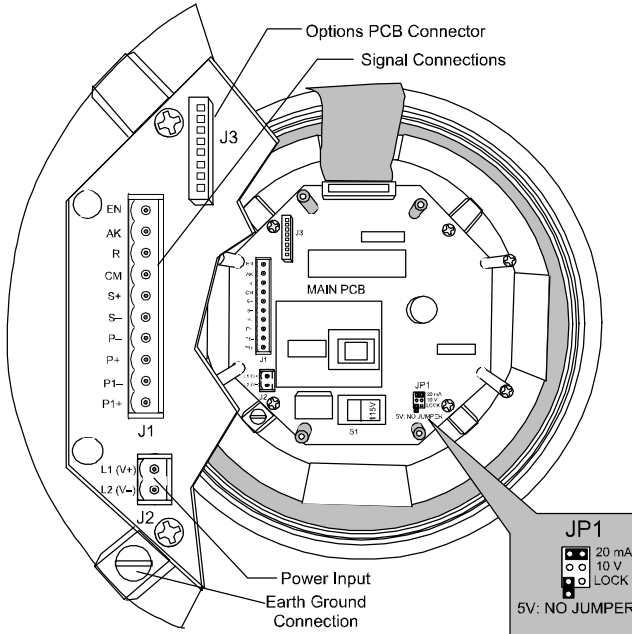
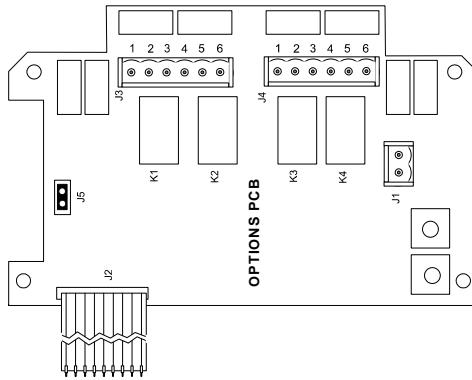
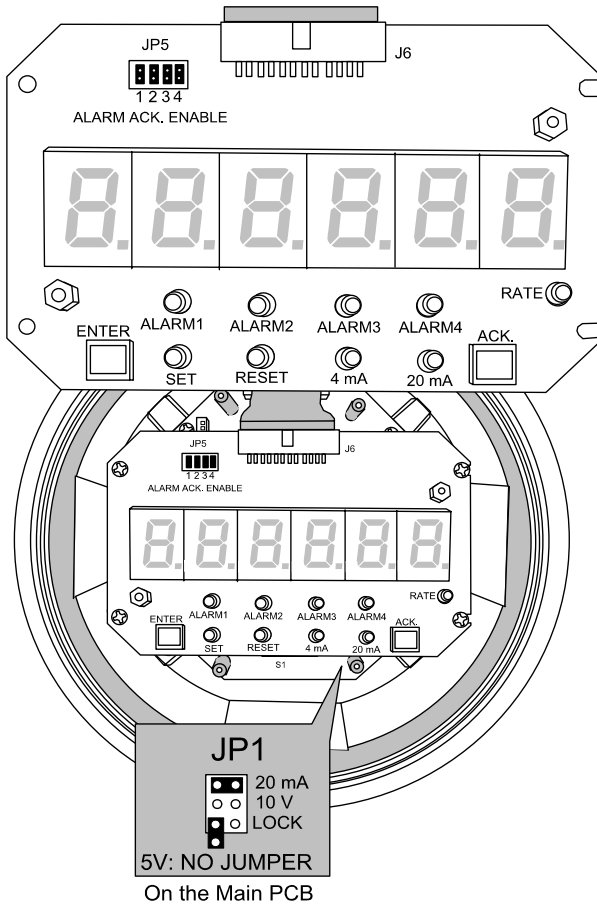

Figure 3. Connections and Jumper Diagram
Figure 4. Options Board Connectors and J5 Jumper Wiring Instructions
Figure 15. Jumper Arrays and Status LED Identification
2. Loosen the two mounting screws on the right side of the Display Board (see Figure 3 on page 21). It is not necessary to remove the faceplate.
1. Slide the Display Board under the two screws on the right side of the Display Board (see Figure 3 on page 21).
Once the Display Board has been removed, switch S1 is visible. It is the large black component with a red slide switch on the top, located next to the transformer. For location see Figure 3, page 21.
Refer to Figure 3 and Figure 4 for connectors' location.
Connect power to terminals L2(V-) and L1(V+). Connect Earth Ground to screw terminal marked with Ground symbol on the enclosure's base (see Figure 3).
Depending on the model number, the Options Board may contain 2 or 4 relays and an isolated 4-20 mA output transmitter. Relay connections are made to removable screw terminal connectors located at J3 and J4 on the Option Board. Connections for the isolated 4-20 mA output option are made to J1 on the Options Board. Refer to Figure 4, page 22 for connectors' location.
The **ENTER** button is used to program the meter for various functions and is located behind the front panel on the Display Board, It is labeled SW2 in Figure 15 above. The **ENTER** button can also be accessed by wiring a normally open pushbutton switch across terminals EN and CM on connector J1 located on the Main Board (see Figure 3, page 21).